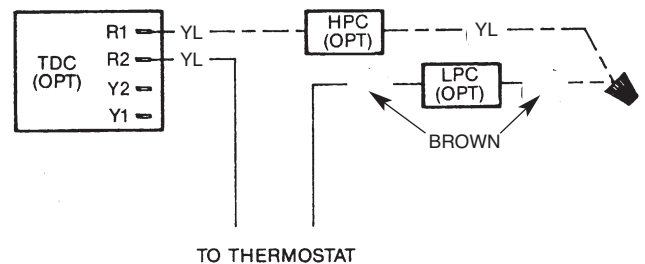
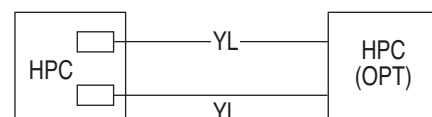

FIGURE 5. WIRING
FIGURE 6
1. Identify the type of control board that is installed in the unit. Some heat pump units may have the Enhanced Defrost Control Board (47-102685-04 or 47-102684-02) with integrated high pressure control built into the board. In these cases refer to Figure 6 for proper wiring instructions. All else refer to Figure 5.
### UNITS WITHOUT ENHANCED DEFROST CONTROL BOARD (FIG. 5)
### UNIT WITH ENHANCED DEFROST CONTROL BOARD (FIG. 6)